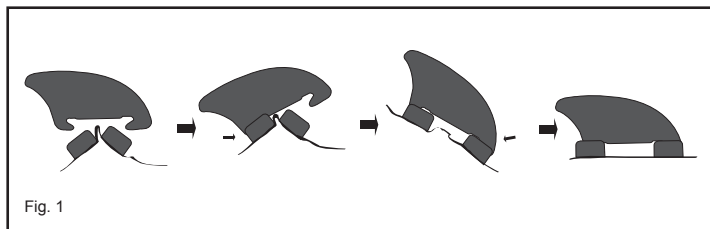

Fig. 1
2. Assemble the removable fin to the bottom of the kayak (Fig.1). Make sure the curvature of the fin is pointed towards the back end of the kayak.